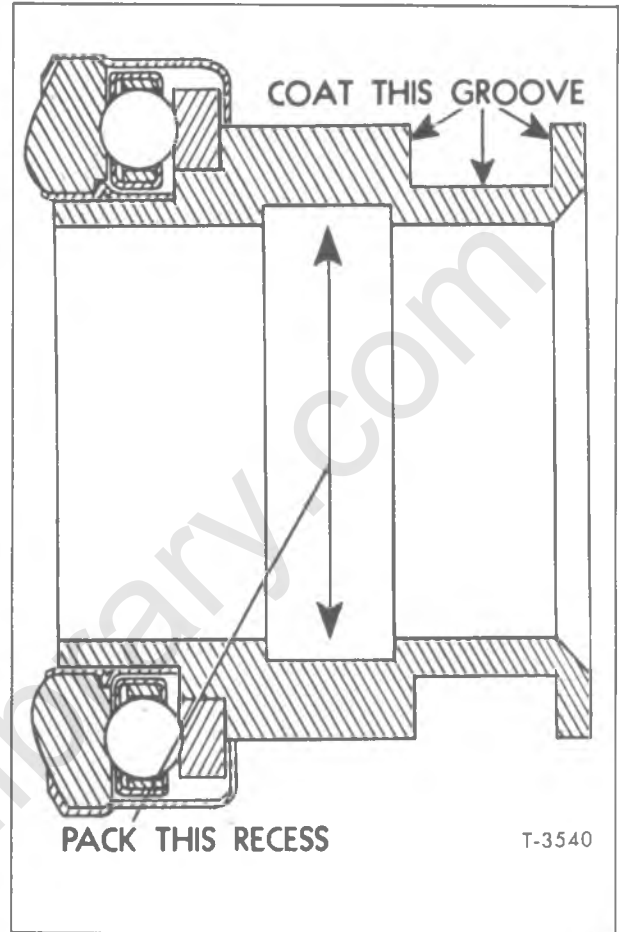

Figure 3—Release Bearing and Support Assembly (Typical)
4. Prior to installation of the clutch release bearing and support assembly, coat the inside and outside grooves with a small quantity of high temperature grease. Refer to figure 3.
5. Coat inside and outside grooves of clutch release bearing and support assembly (fig. 3) with